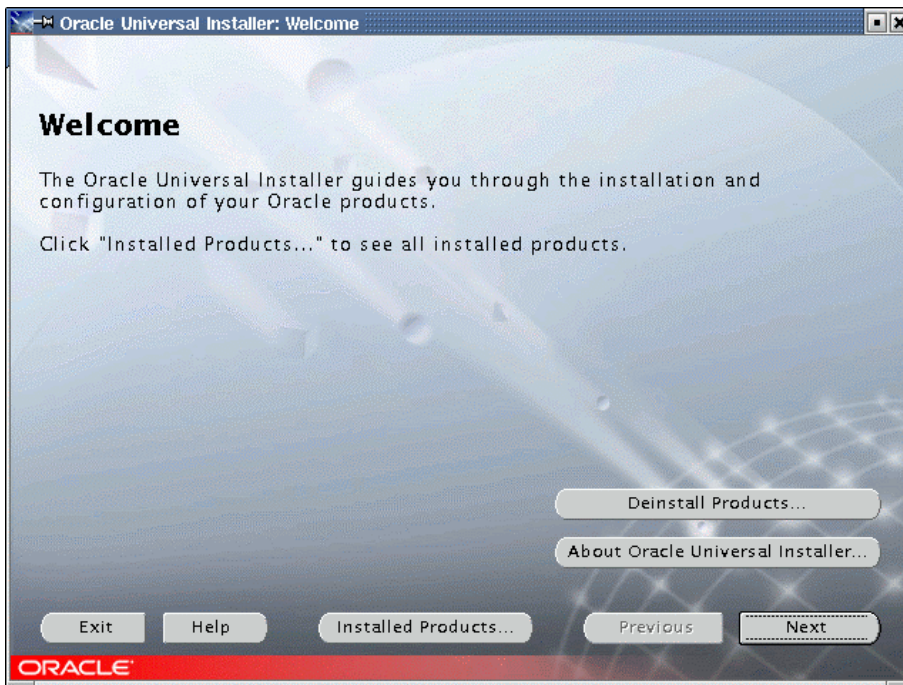
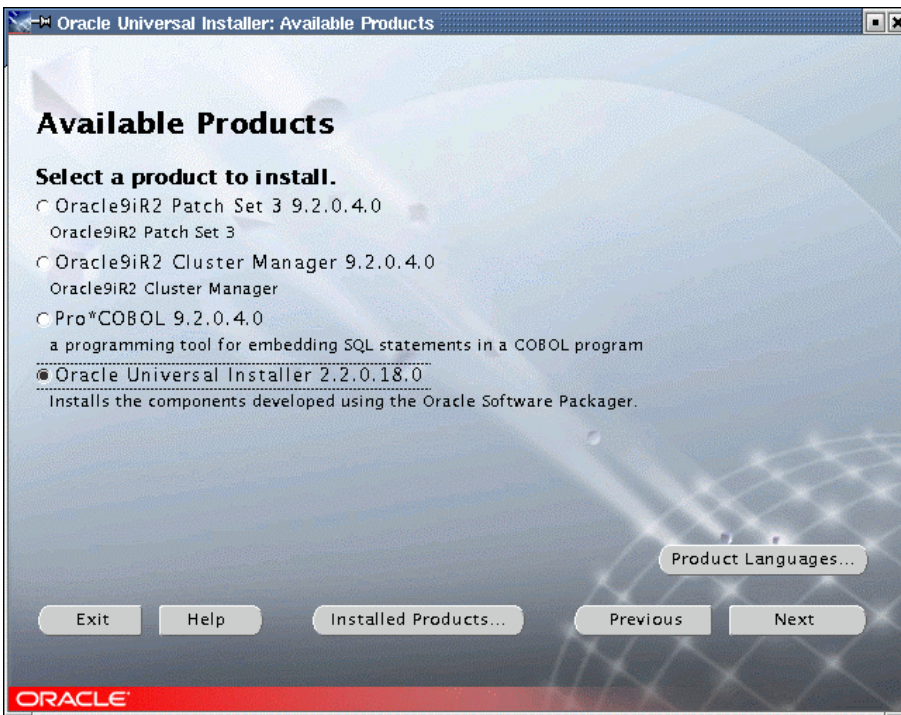

Figure 52. Welcome
Figure 55. Available Products
The Welcome screen shown in Figure 52 is displayed. Click **Next** to continue.
- The Available Products screen is displayed next (Figure 55). Select Oracle Universal Installer 2.2.0.18.0 and click **Next** to continue.
The procedure is similar to that in the previous section. It starts with the same screens as from step 1, page 49 (Figure 52, Welcome screen) through step 4, page 51 (Figure 55, Available Products screen).